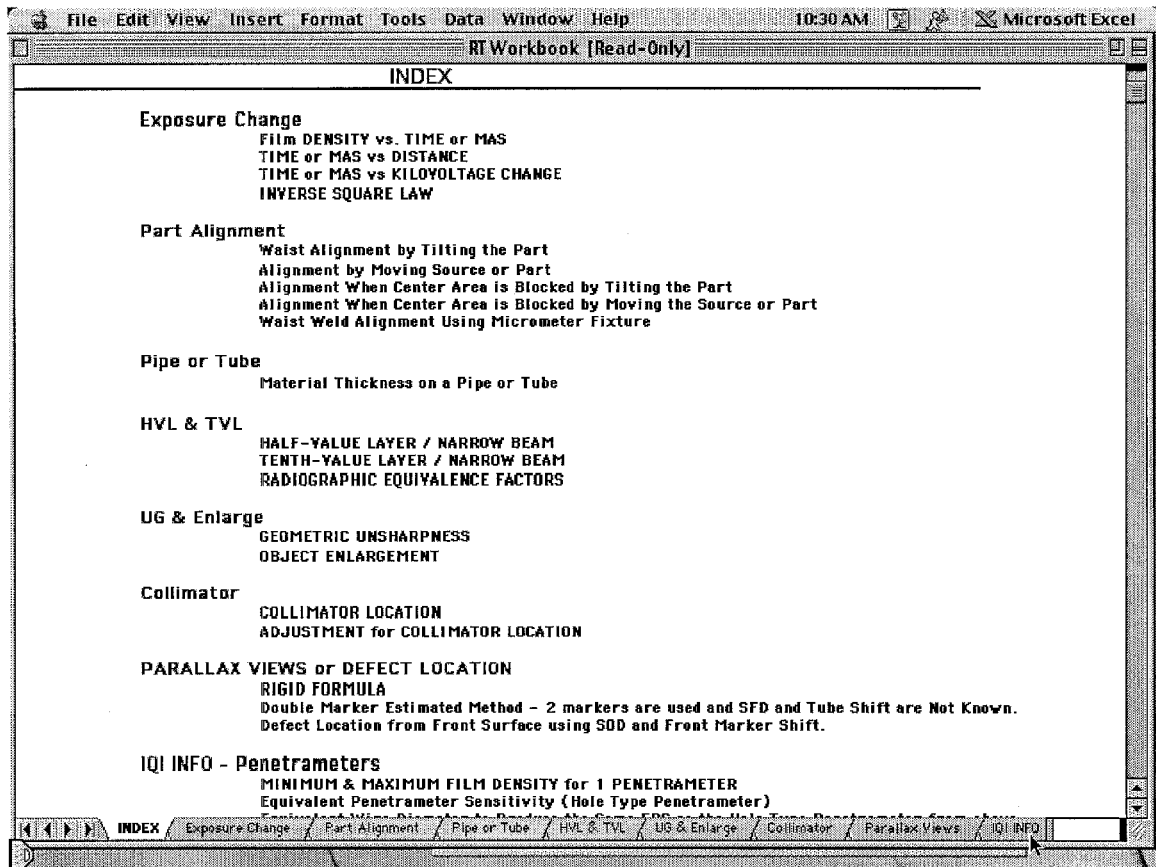
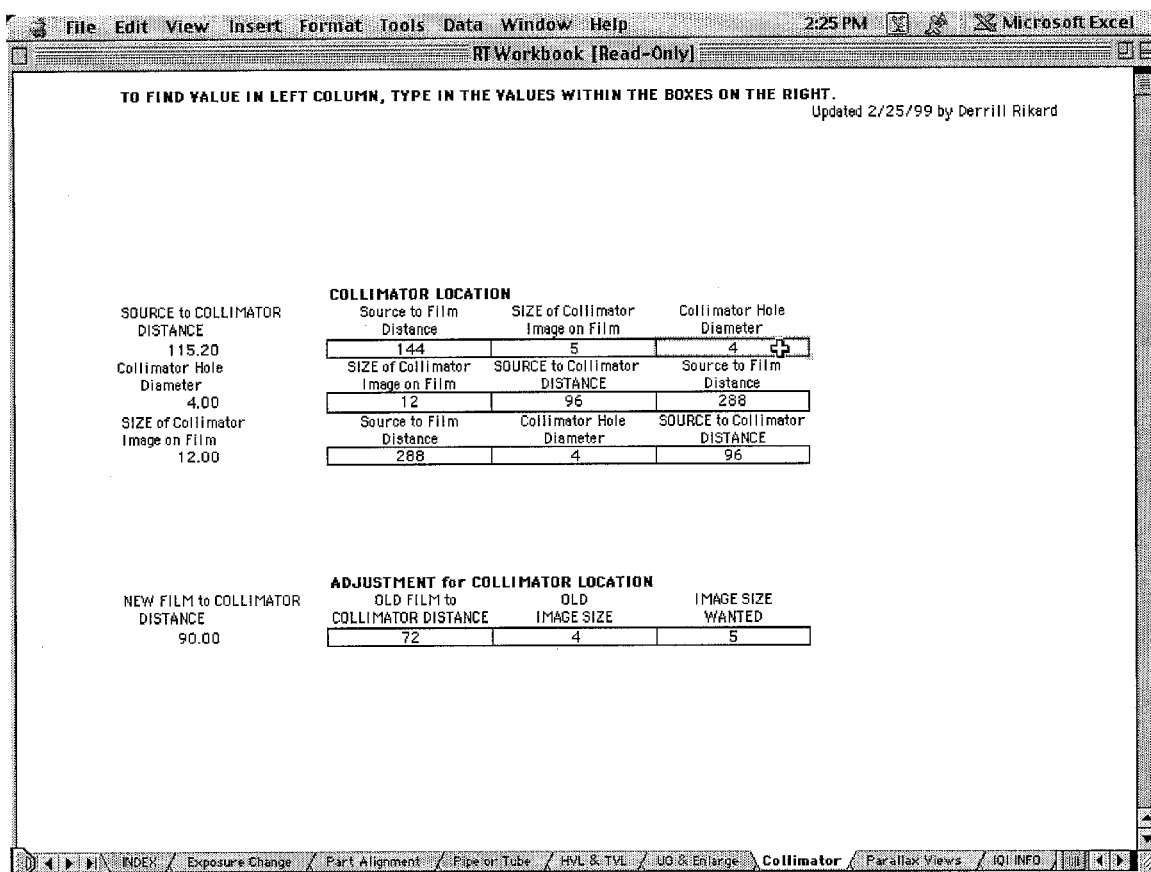

Figure 1
Figure 3
Figure 1 shows how the Index page should look on your computer screen. If the page tabs along the bottom edge of the workbook or the scroll bar on the right side of the window is not visible on your computer screen; you must arrange the window. The workbook must be unlocked to do this. To unlock the workbook, close the workbook then click the mouse once on the icon to select it. The icon will then turn black. On the Macintosh go to File on the Menu bar, go to Get Information, then click the mouse on the Locked box on the lower left side of this window. The checkmark in this box will disappear and the file will be unlocked. On a PC to unlock the workbook, go to Tools in the Menu bar, go to Protect Workbook then click the mouse on Protect Structure and Protect Windows to delete the checkmarks. The file will now be unlocked.
Arrange the window on a Macintosh or a PC by pressing the mouse on Window in the Menu bar, drag the cursor down to Arrange All, click the mouse on Tiled then click on "OK". The workbook should now look like Figure 1. The Scroll bar on the right side of the page is used to scroll up and down the pages and the tabs along the bottom edge of the workbook are used to go to the individual calculation pages.
On the Macintosh to lock the workbook you should have it saved with the Index page displayed as it is in Figure 1. Go to File on the Menu bar, go to Get Information and click the mouse on the Locked box on the lower left side of this window. A checkmark will appear in the box. With the workbook saved and locked in this manner it will always open on the Index page. If a formula is accidentally changed, it will not be a permanent change; the next time the workbook is opened, it will revert back to the original formula.
To Lock the workbook on a PC you should have it saved with the Index page displayed as it is in Figure 1. Go to Tools in the Menu bar; drag down to Protection, then to Protect Workbook. Click the mouse on Protect Structure and Protect Windows. Checkmarks will appear in these boxes.
From the Index page in the "RT Workbook" an individual page is used for the different calculations necessary. For example, if you want to calculate where to place a 4" diameter collimator to obtain a 5" diameter field of view when using a source-to-film distance of 12 feet (144"), the following steps would be taken: 1) On the Index page in Figure 1 you see Collimator Location is on the Collimator page, so click the mouse on the Collimator Tab on the bottom edge of the workbook. 2) The mouse click will immediately go to that page. 3) Enter the parameters in the boxes provided for Source to Film Distance (144), Size of the Collimator Image on the Film (5) and the Collimator Hole Diameter (4). Press the Enter key or click the mouse in another cell outside of these boxes and the answer will be calculated and displayed in the left column. A source-to-collimator distance of 115.20 inches would be needed to obtain this field of view (see Figure 3). After you have finished with your calculations and want to quit the workbook, do not save the changes in the workbook by clicking the mouse on the Don't Save button.